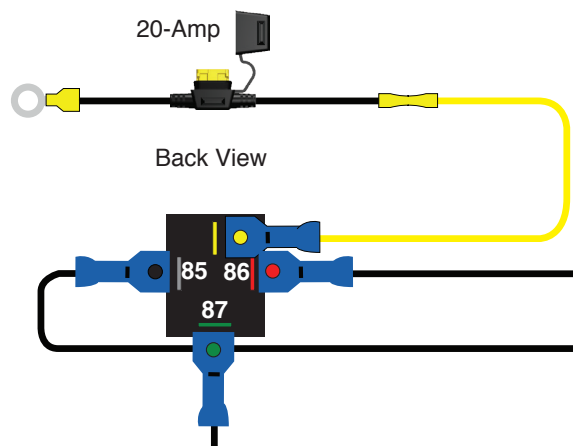

fig. 10
8. If choosing to connect the black wire directly to the battery, use the ring terminal supplied with the harness and attach it to the other end of the fuse holder wire. (Fig. 10)